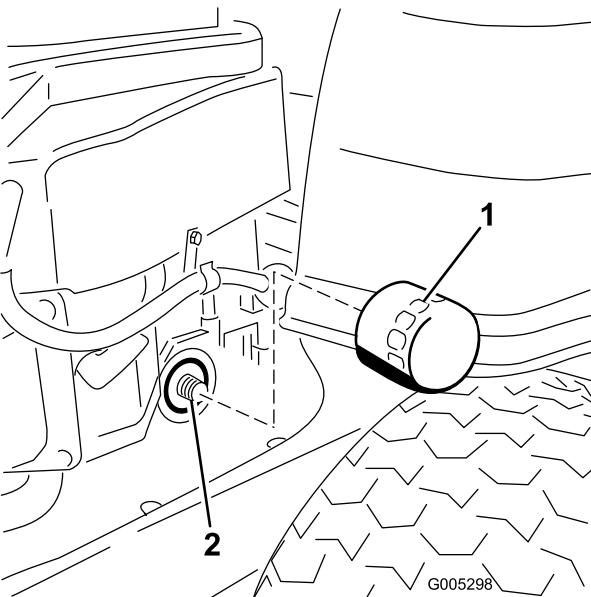

Figure 30
10. Locate the oil filter on the right side of the engine. Remove the old filter and wipe off the filter adapter with a clean cloth (Figure 30).
12. Install the replacement oil filter to the adapter. Turn the oil filter clockwise until the rubber gasket contacts the pad, then tighten the filter an additional 3/4 to 1 turn (Figure 30). Wipe up any excess oil on the frame.